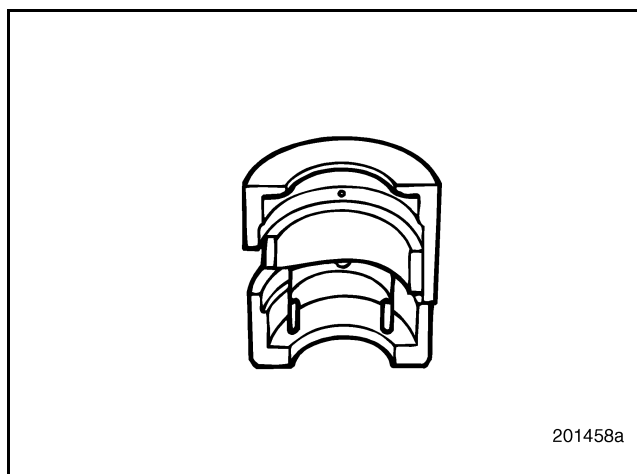

Figure 260 — Camshaft Installation Guide
3. Install the camshaft installation guide over the large flat of the injector lobe, between the last two cam journals (journals at the back of shaft). Refer to Figure 260.